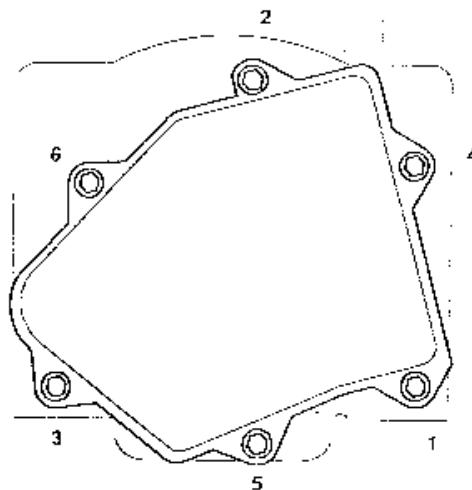

Fig. 3.36 Thermostat Cover Torque Tightening Sequence
7. Fit the six securing screws and washers and use tool Part No. 2802-8053-000 to torque tighten the screws to 20 Nm in the sequence illustrated in Fig. 3.36.